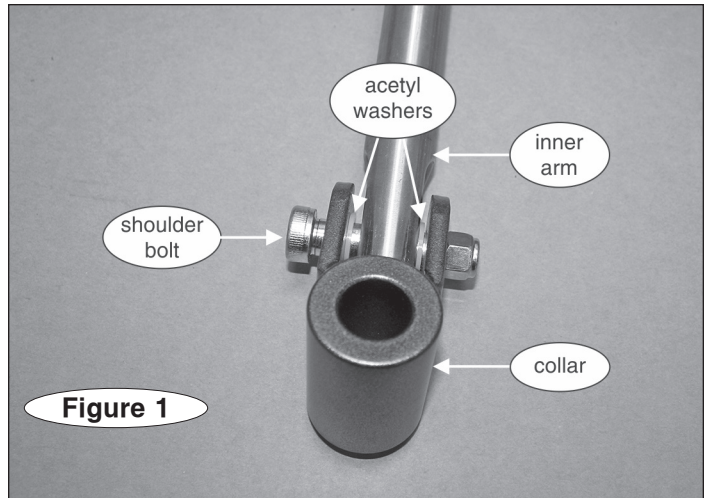

Figure 1
2. With the 1/4" Allen wrench and the 9/16" socket wrench, remove the shoulder bolt connecting the original collar to the inner arm (Figure 1). Discard the two acetyl washers, the collar and the Nylock nut.